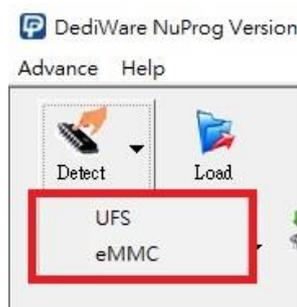

Fig. 5-13
- Detect:** Choose correct IC type to detect IC (Fig. 5-13) or choose the model number manually. If the data list has the corresponding model number that is supported, software will automatically import the values of the UFS, and the Log will appear as below (Fig. 5-14). If the IC model number that you need are not listed (Fig. 5-15), please feel free to contact us.